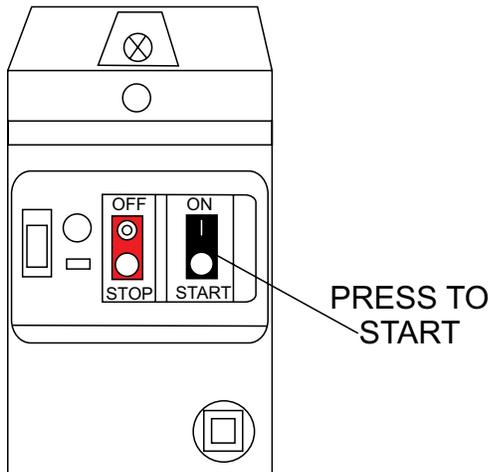

Figure 24. Electric Motor On/OFF Switch (Start)
2. To start the electric motor, press the black **ON/START** switch (Figure 24).